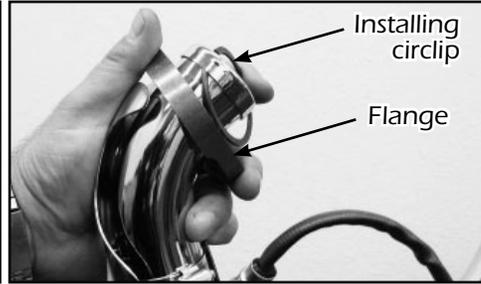

FIGURE 7
10. Install muffler assembly onto rear of header assembly and under collector heat shield and into torca band clamp(Figure 7).